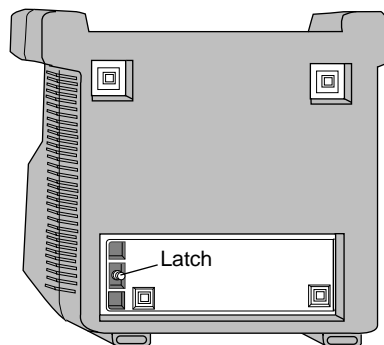

Figure 72
2. Press the battery door latch release button and remove the door (Figure 72).